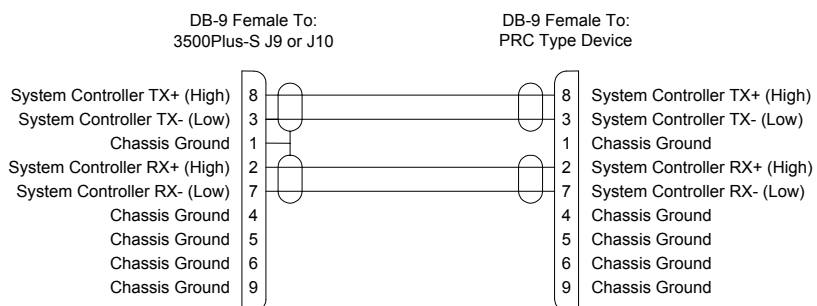

Figure 82. 3500Pro-D RS-422 Serial Cable
- COM 3/PRC is the communications interface to a PRC type routing switcher system and is connected to a routing switcher. If necessary, a cable up to 4000 feet in length may be fabricated in the field as shown in Figure 82. It contains the same physical connections as in 5 pin PRC connector.